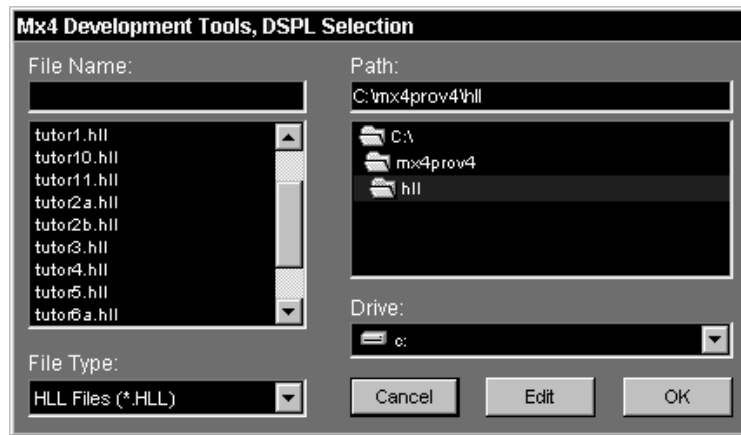

Fig. 5-2: DSPL Selection window
2. **Select the DSPL File.** To open a file, browse your harddrive to the path where your project will exist or does exist, then click on the filename or enter the file name in the **File Name** text box. Note, there is a **File Type** filter. After your file has been selected, click on the **OK** button to accept your selection or the **Cancel** button to disregard (Figure 5-2).
A file which has not been opened may also be edited via the DSPL Selection window. Follow steps 1 and 2 above, then select the **Edit** button instead of the **OK** button (Figure 5-2). The file will then be opened with the editor, but not into the DSPL Development tool. This feature is useful when an “include” file needs to be edited or created.